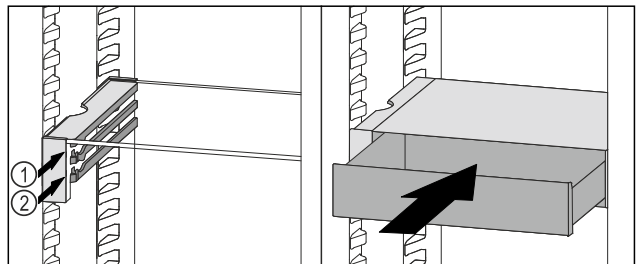

Fig. 60
- ▶ Place the VarioSafe drawer behind the stoppers on desired rib *Fig. 60 (1)* or *Fig. 60 (2)*.